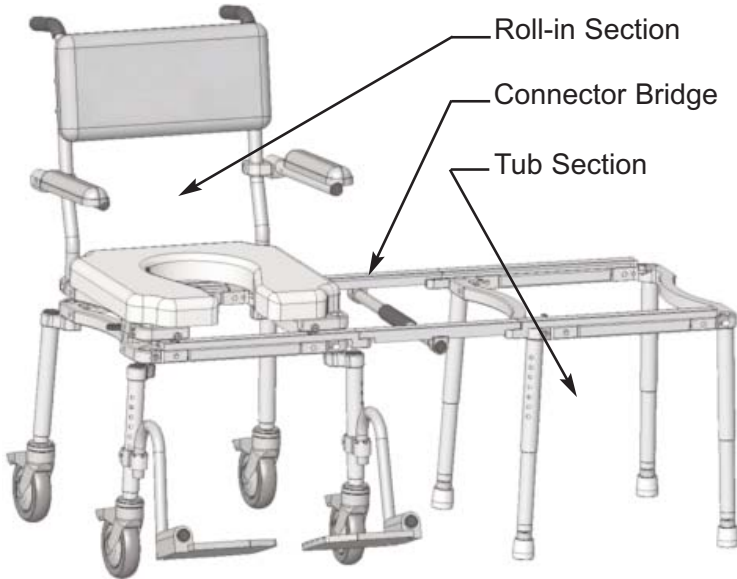

Figure 1
**A** The multiCHAIR 6000 and 6200 (Refer to Figure 1) are composed of three sections: the roll-in section with offset legs and 5" casters, the connector bridge section, and the tub section which has straight legs and adjusting feet. The chair is shipped standard with the tub section positioned on the user's left side. Unpack all parts from the shipping carton.